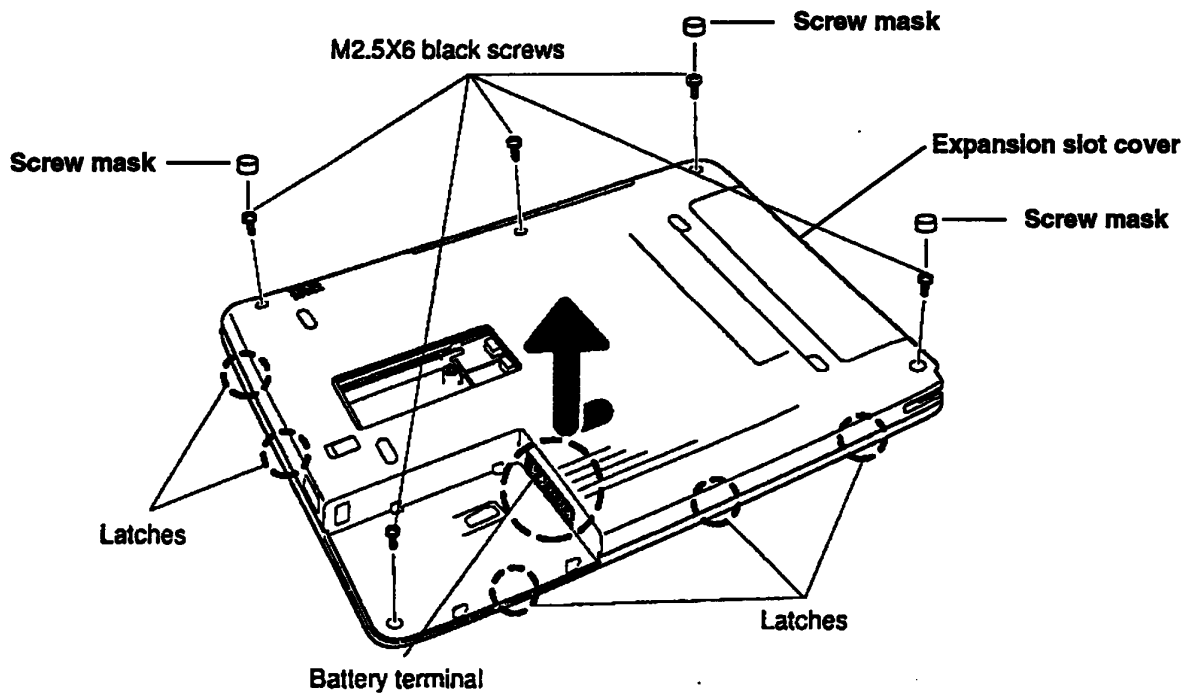

Figure 4-11 Removing the Back Cover
To remove the T100X back cover, follow the steps below and refer to Figures 4-11 through 4-13.
3. Remove the three screw masks and five M2.5x6 black screws (Figure 4-11).
4. Open the expansion slot cover (Figure 4-11).
10. With both hands, slightly lift the back cover and slide it towards you so that it does not catch on the **battery terminal**, then lift the cover straight up (Figure 4-11).